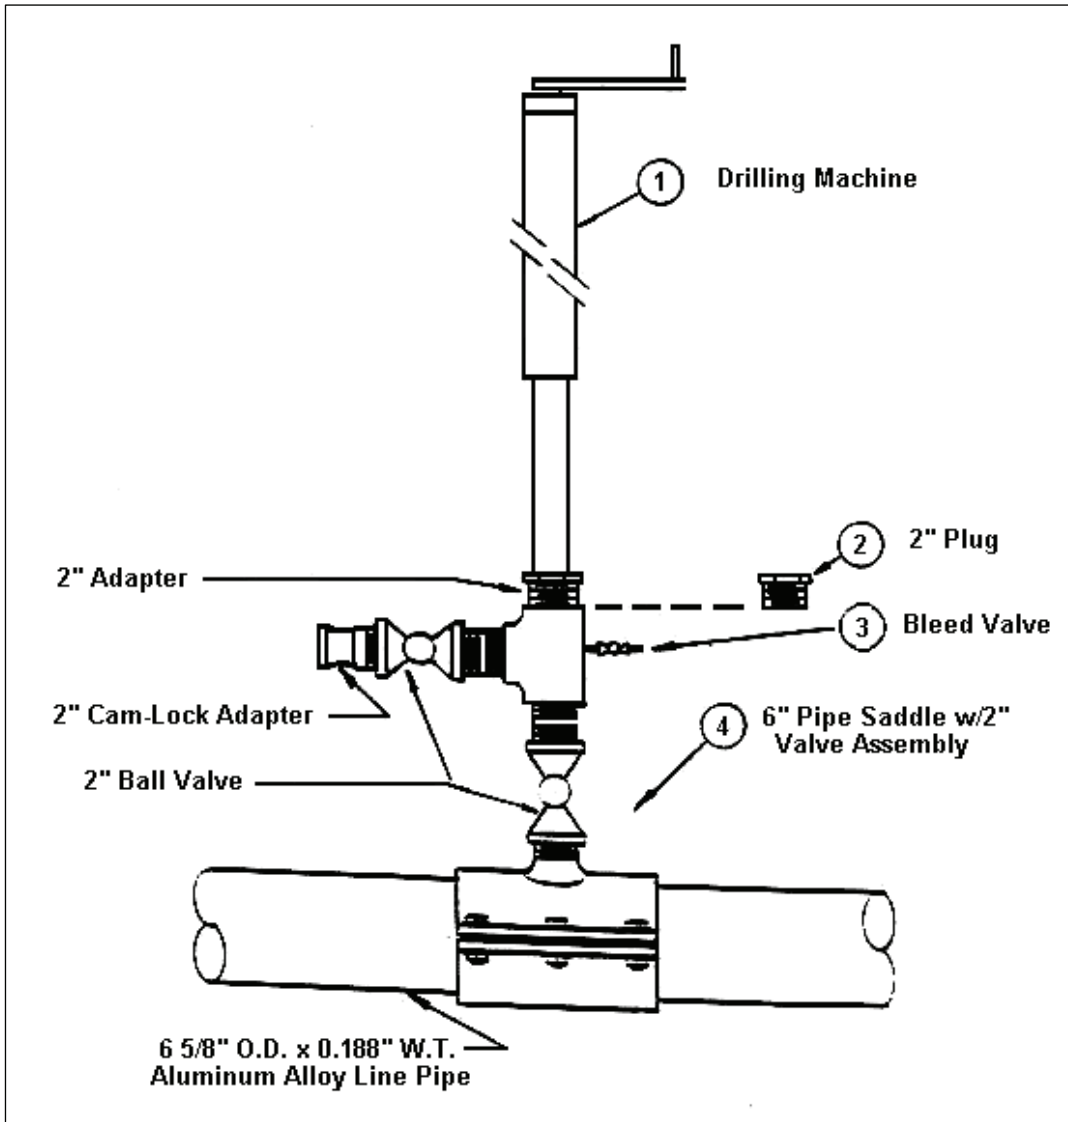

Figure 8
- NOTE: Using tapping machine, tap into pipeline and remove fuel as follows (Figure 8) identify components listed in a below.